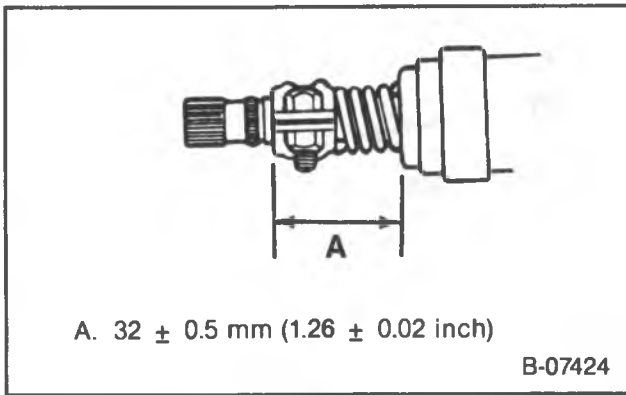

Figure 50 — Lower Bearing Adjustment
2. Clamp (316), bolt (317), washer (318) and nut (319). Maintain the clearance dimension shown in figure 50.
3. Adjust the clamp to obtain a clearance of 32 ± 0.5 mm (1.26 ± 0.02 -inch) (figure 50).